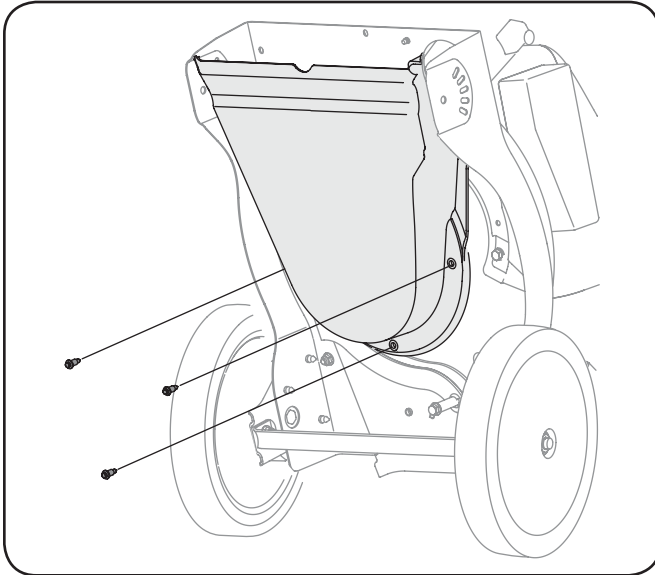

Figure 7-4
7. Carefully tilt and support the unit up to provide access underneath to the nozzle mounting hardware and impeller. Remove the three shoulder bolts securing the black plastic lower flail housing to the lower housing. Refer to Fig. 7-4.